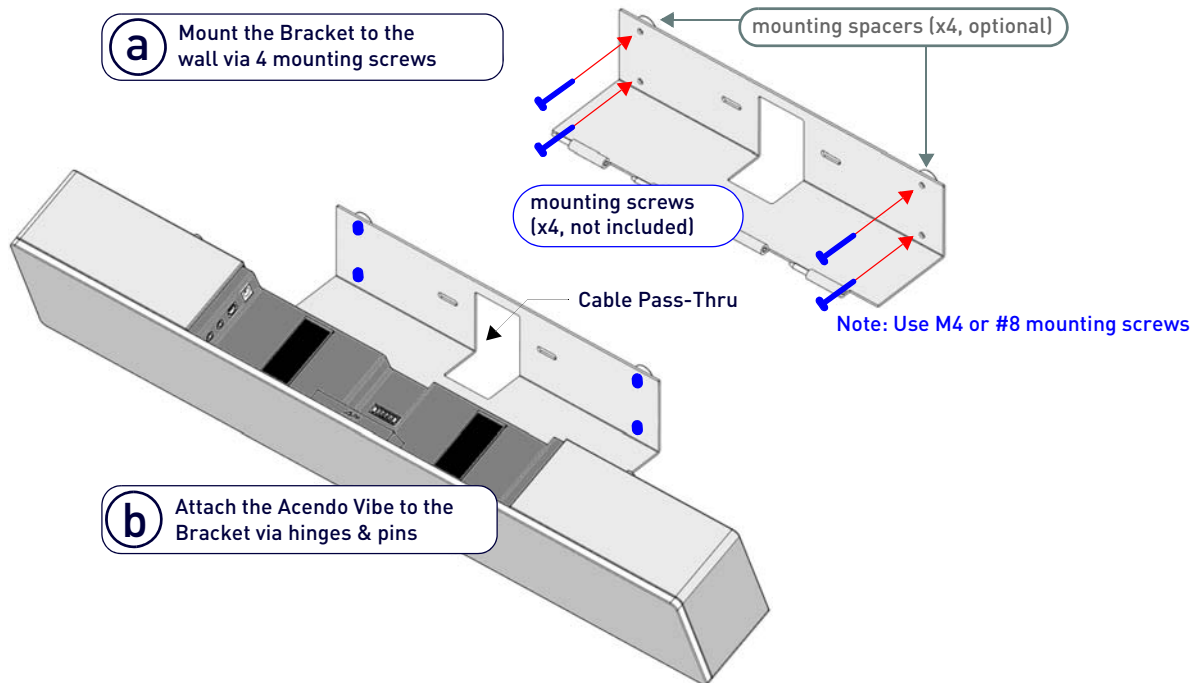

FIG. 10 Wall Mounting the Acendo Vibe
6. Mount the Bracket using mounting screws and optional mounting spacers (see FIG. 10).
Optionally, if not hiding them behind the drywall, place the four included Wall Mount Spacers between the Bracket and the wall to create a 5mm gap for routing flat cables (FIG. 10).